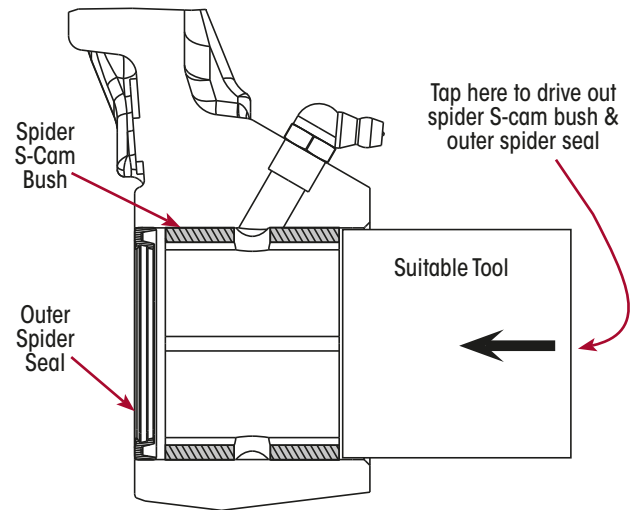

Figure 85: Spider S-Cam Bush & Seal Removal
4. Using a suitable bush tool or seal driver, tap the spider S-cam bush and outer seal out of the spider bore. Refer Figure 85.
3. Using a suitable bush tool (the same used in Figure 85), carefully tap a new spider S-cam bush into the spider.